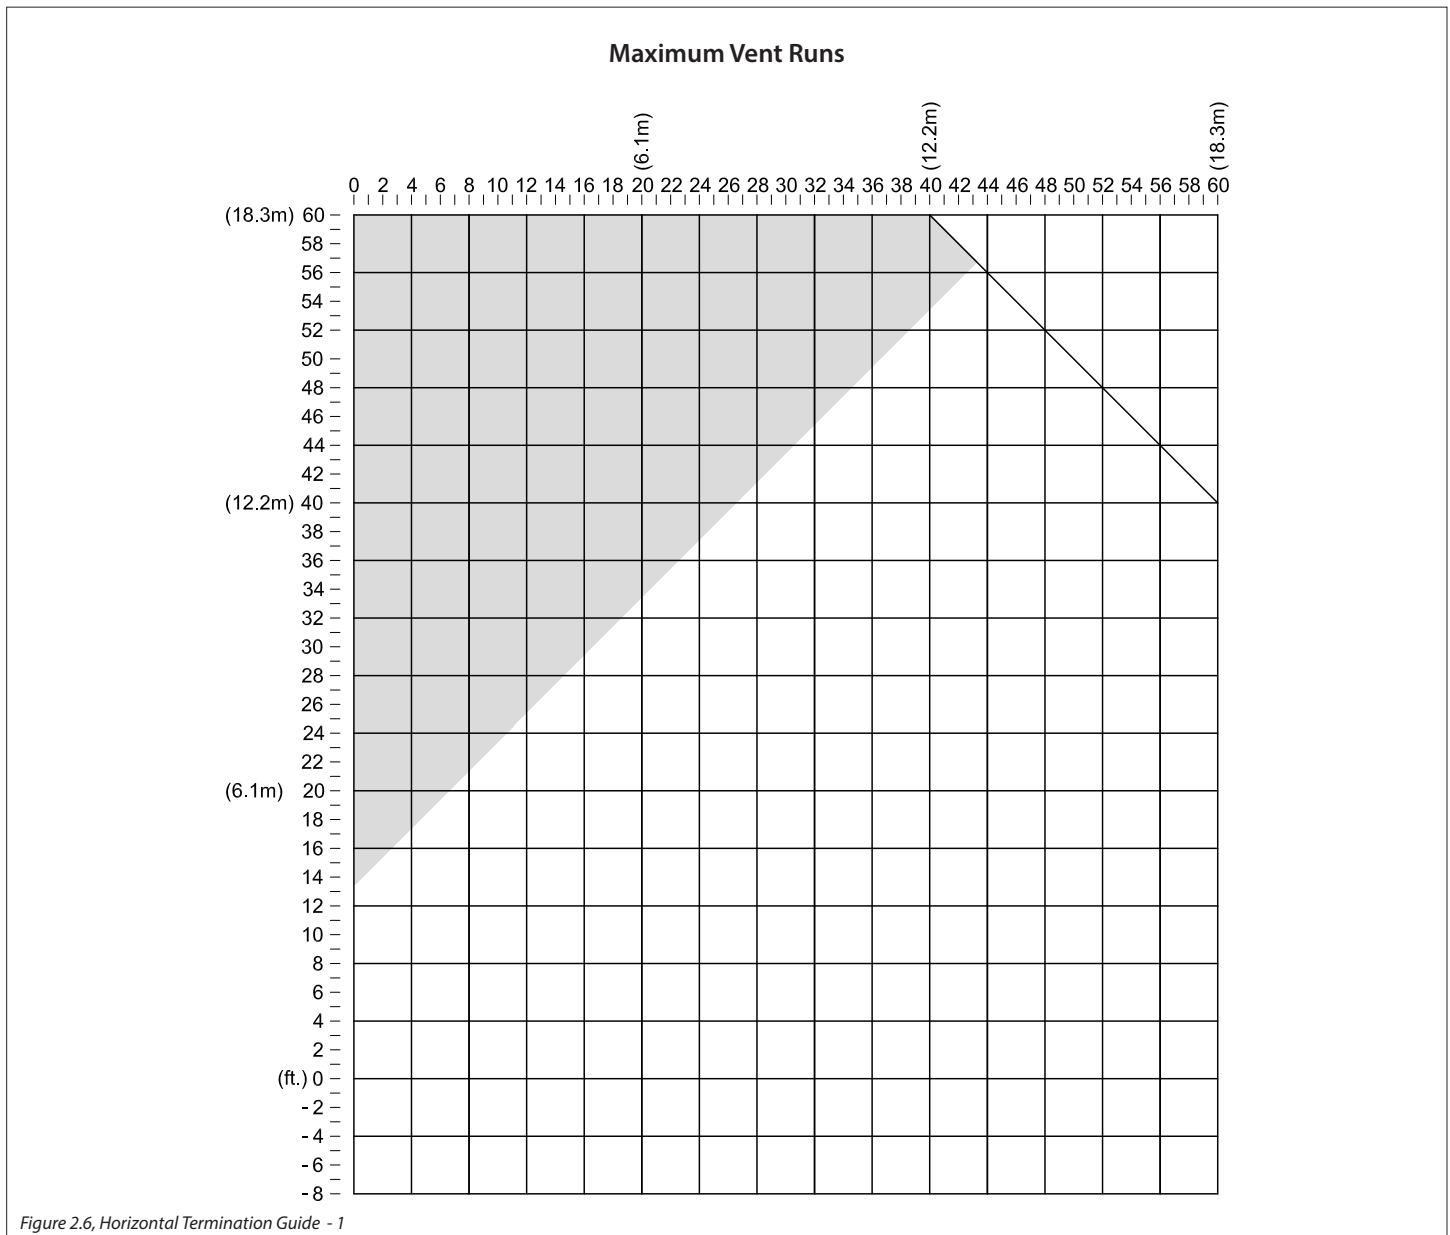

Figure 2.6, Horizontal Termination Guide - 1
- Use Table 2.1 for venting guidelines. Use Figure 2.6 for a guide to calculate total vent run. Termination must be in shaded area.